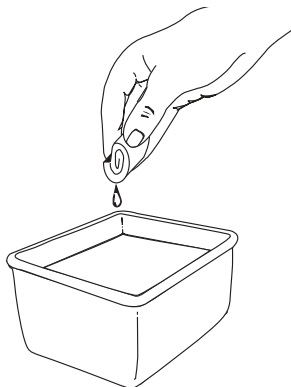

Figure 45
3. Wash the filter in detergent and water. See Figure 45. Rinse the filter thoroughly and allow it to dry.